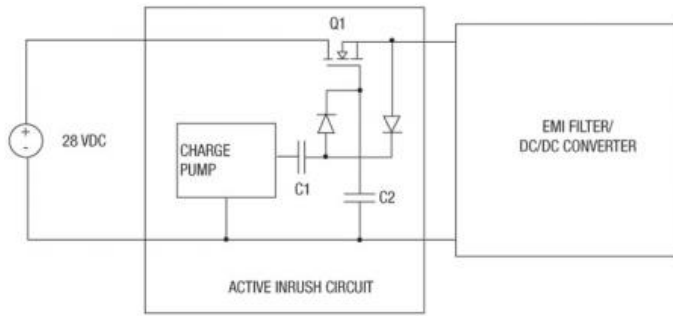

Figure 4
- Figure 4 - The MOSFET is located in the high s...
A better solution is to move the series MOSFET to the positive lead. While this can be accomplished by using a P-channel MOSFET, a better approach is shown in Figure 4. The MOSFET is located in the high side, allowing primary circuits to share a common return, but an N-channel MOSFET is used. The N-channel MOSFET will have a lower on-resistance, reducing power loss. A charge pump is required to drive the gate of the MOSFET above the input voltage. The MOSFET can also be operated in the linear region as a source follower to provide input transient protection.